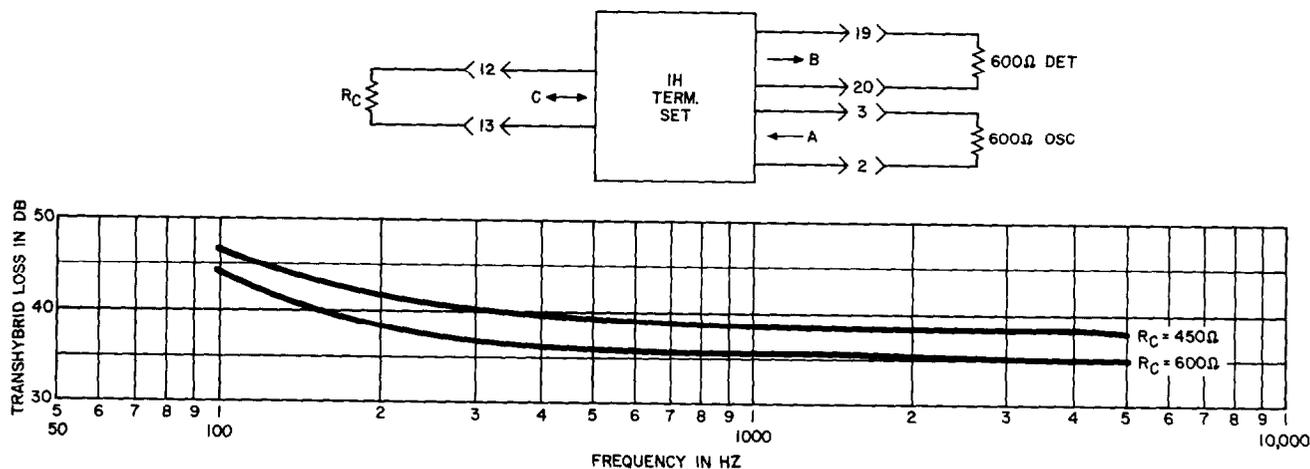

Fig. 5—1H Terminating Set—Typical Transhybrid Loss
4.03 The typical transhybrid loss (see Fig. 5) of the 1H terminating set is measured from 600-ohm receive terminals 2 and 3 to 600-ohm transmit terminals 19 and 20, with 2-wire terminals 12 and 13 terminated in either 450 or 600 ohms. 450 ohms is the nominal circuit impedance while 600 ohms is used for factory and field measurements. Variations from the 1000-Hz transhybrid losses given in Fig. 5 can be ± 4.0 dB for an R_C of 600 ohms and ± 5.0 dB for an R_C of 450 ohms, with the curve shapes remaining essentially the same.